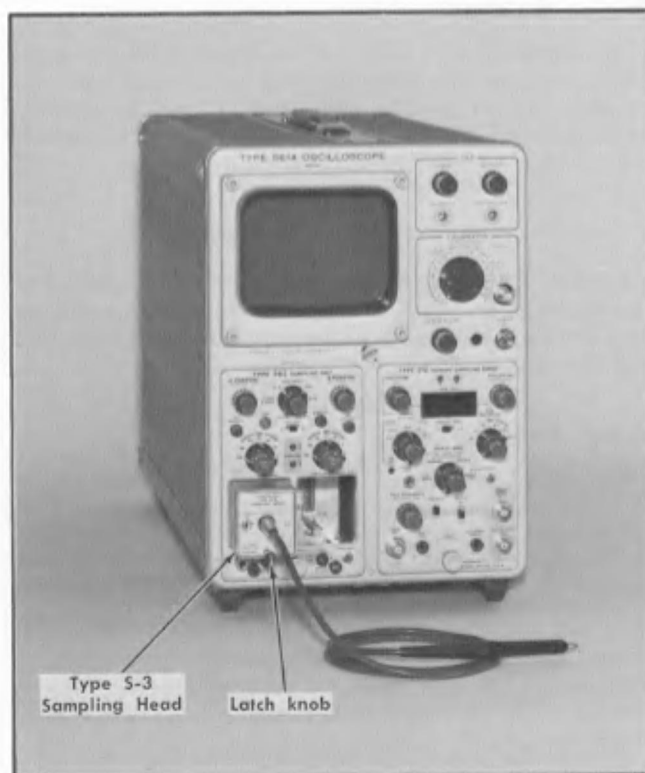

Fig. 2-1. Installation Information.
Fig. 2-1 shows the Type S-3 partially installed into a Type 3S2 Sampling Unit with Type 561A Oscilloscope and Type 3T2 Random Sampling Sweep. The sampling head (or heads) can be plugged into the sampling unit as shown, or used remotely on a special extender cable. Three and six foot extender cables are available. Order the three foot extender cable by Tektronix Part No. 012-0124-00, or the six foot extender cable by Tektronix Part No. 012-0125-00. Contact your local Tektronix Field Engineer or Representative for price and availability of these optional accessories.
1. Pull the latch knob (Fig. 2-1) outward from the front panel (the latch knob will push out normally when the unit is inserted if the knob is left free to move).